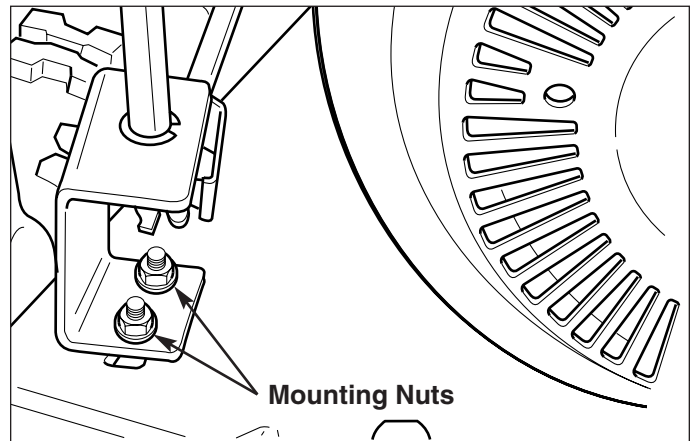

Figure 22. Chute Direction Control Gear Bracket Adjustment
1. Loosen the gear bracket mounting nuts (Figure 22).